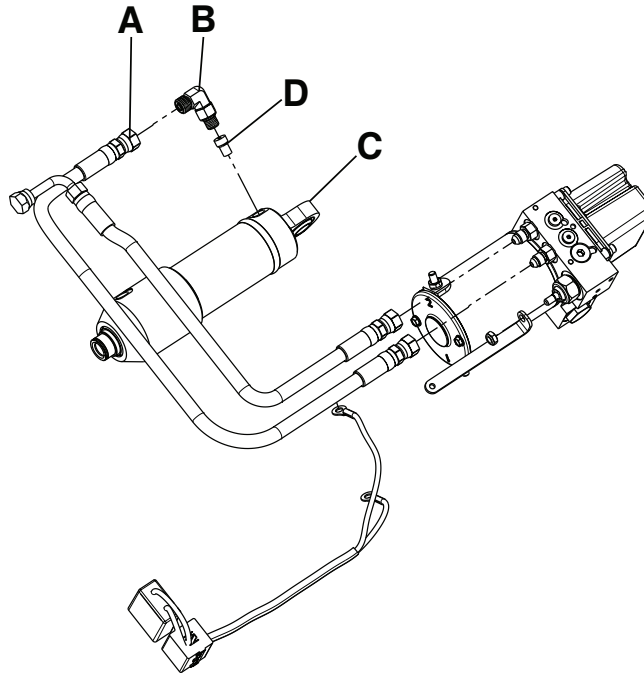

Figure 37 – Velocity fuse components
- Using an 11/16" combination wrench, disconnect the hydraulic hose (A) closest to the mounting bracket at the head end of the trolley (Figure 37).
4. Using a 5/8" combination wrench, loosen (do not remove) the jam nut on the cylinder hose fitting (B) and unthread the fitting from the hydraulic cylinder (C) (Figure 37). Save all parts for reinstallation.
5. Using a 1/8" hex wrench, remove the velocity fuse (D) from the hydraulic cylinder (C) (Figure 37). Discard the fuse.